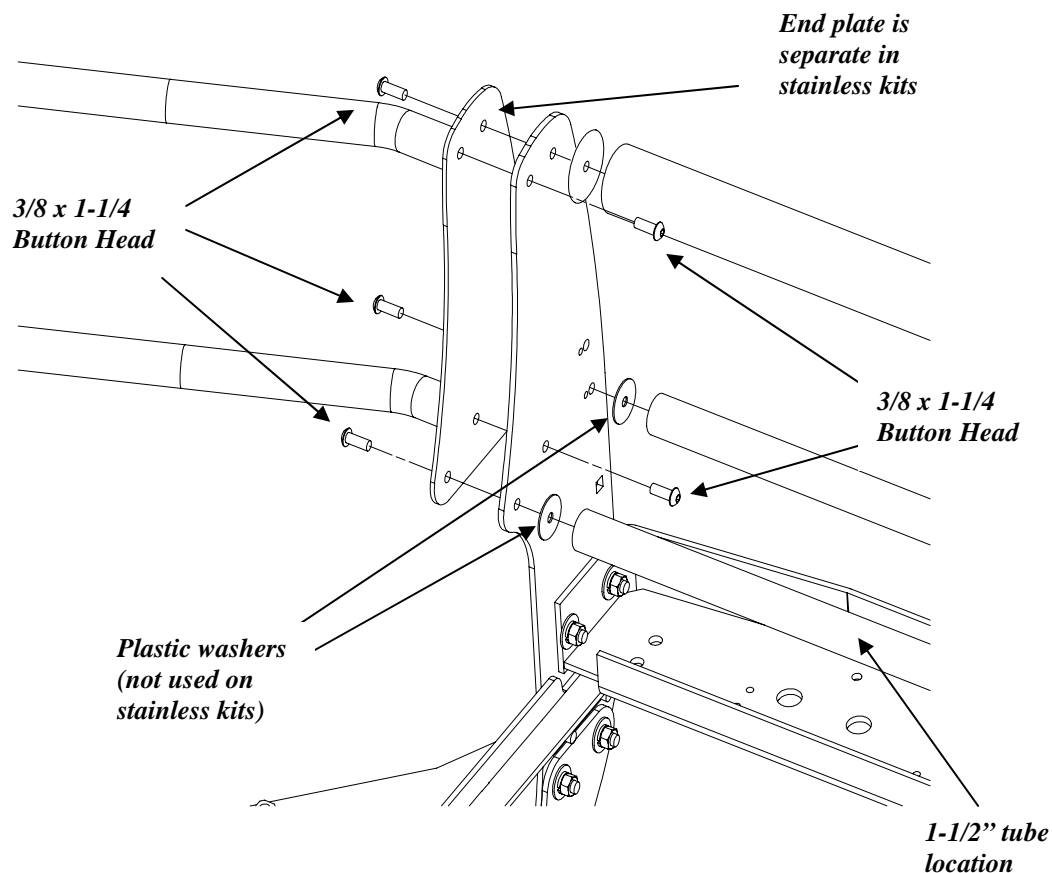

FIGURE 2 LH Brush Guard (Black Kit – one piece)
2. Hold the left Brush Guard in position and install a 3/8 x 1-1/4" button head screw through the Brush Guard End Plate and Side Member into the corresponding Grille Guard Tube. Do not tighten. **See Figure 2.** Align the Brush Guard and install the second screw.
3. Install the 1-1/2" tube between the Side Members and align it with the lower, rear holes in the Side Members. (Black Kit only: Insert a large plastic washer between each end of the tube and Side members.) Install a 3/8" x 1-1/4" screw. Do not tighten. **See Figure 2.**